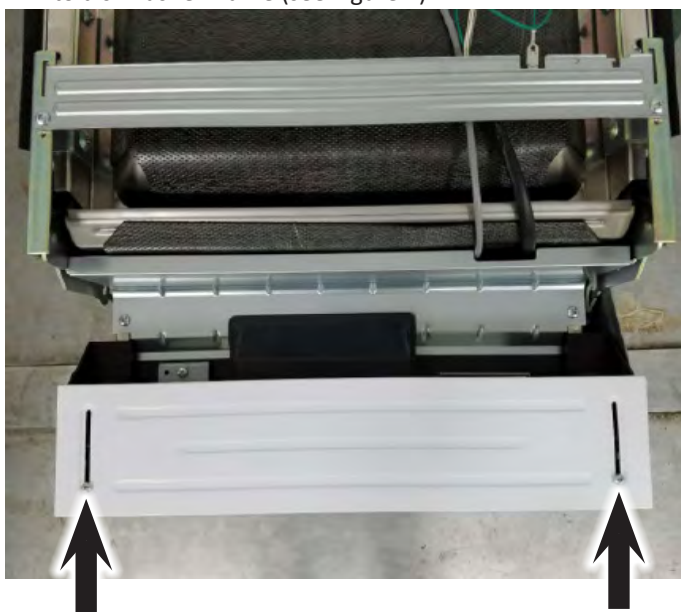

Figure 1
2. Remove two (2) screws securing the kick board (toe panel) to dishwasher frame (see Figure 1).